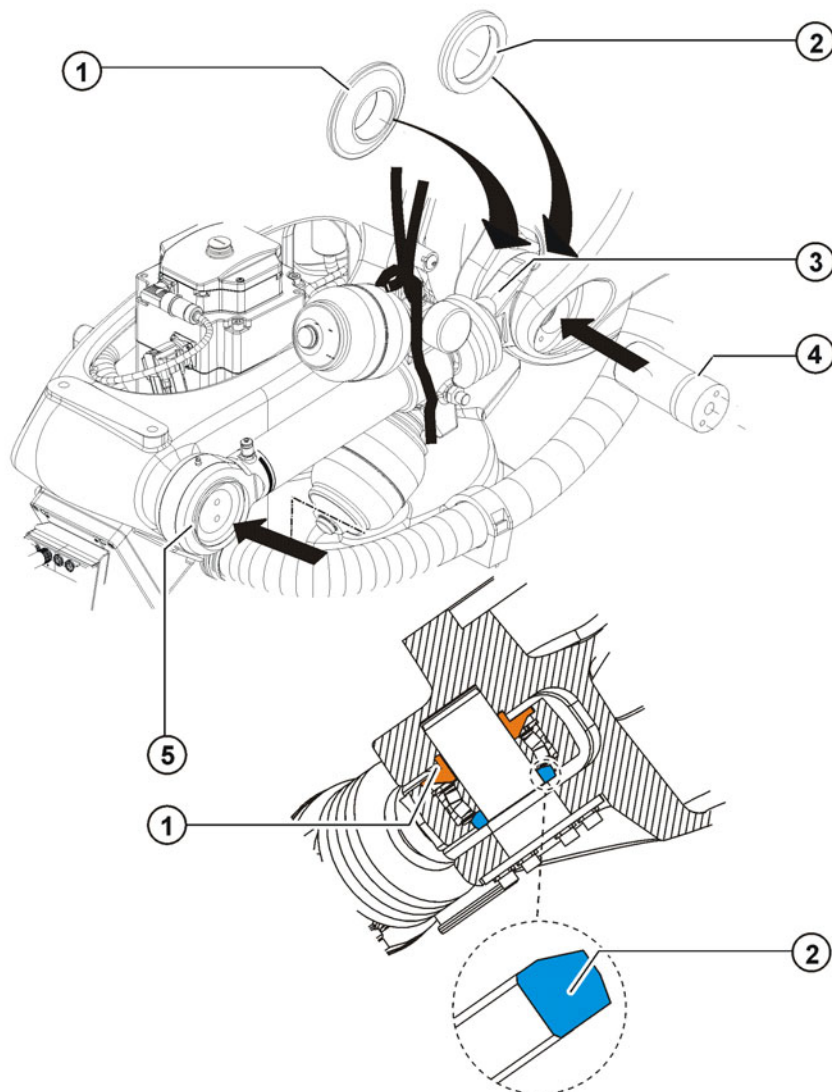

Fig. 11-33: Installing the counterbalancing system on a ceiling-mounted robot: pin
11. Move the link arm until the counterbalancing system can be inserted into the link arm. At the same time, move the element securing the link arm accordingly (>>> Fig. 11-33).
14. Insert the pin using the device (00-190-157) (>>> Fig. 11-33).